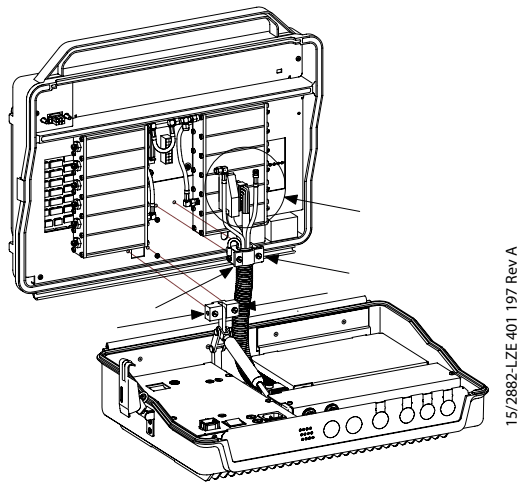

Figure 9 Removing four screws and a cable kit.
3. Unscrew the four screws and loosen the cable kit between the lids to be able to remove the large black filters, as per Figure 9.